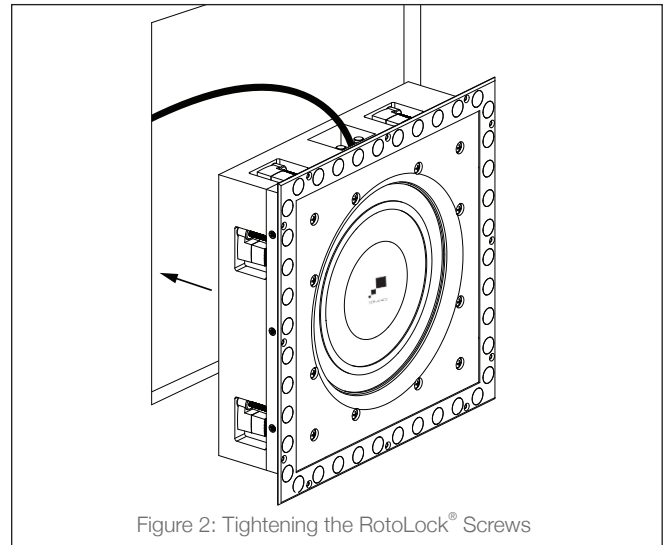

Figure 2: Tightening the RotoLock® Screws
6. Make sure all the RotoLock® toggle feet are retracted so that they can fit within the mounting hole. Insert the subwoofer into the hole in the wall (see Figure 2).